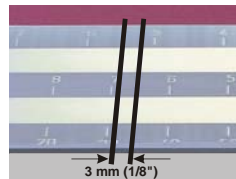

Figure 2. Reading the gauge - Elcometer 2020 and 2050
6. **Elcometer 2020 and 2050:** Find a band across the groove(s) 3 mm (1/8") wide which contains 5 to 10 particles of the material (Figure 2).